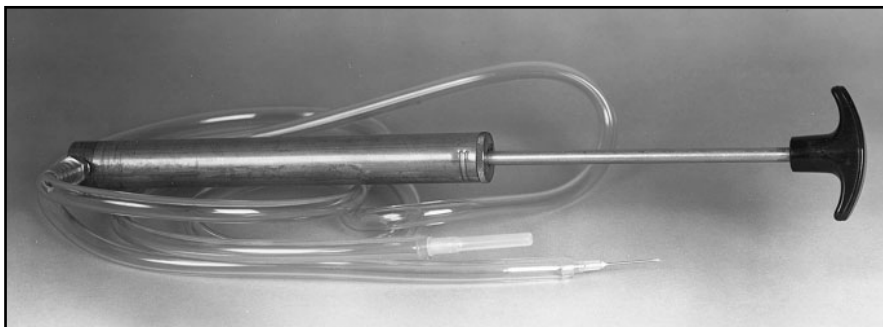

Figure 10 - Vacuum Pump
- 4) Identify the vacuum side of your pump. Looking at the bottom of the pump, the hose connected to the port at the bottom side of the molded arrow is the vacuum hose (see Figures 10 and 11).